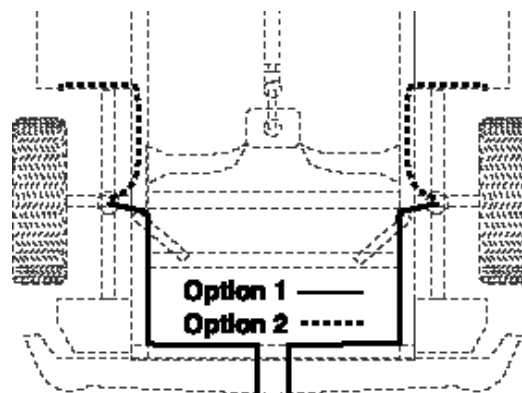

fig. 11
6. Route the air line along the frame to the air fitting on the air spring (Figure 11). Keep at least 6" of clearance between the air line and heat sources, such as the exhaust pipes, muffler, or catalytic converter. Avoid sharp bends and edges. Use the plastic tie straps (BB) to secure the air line to fixed, non-moving points along the chassis. Be sure that the tie straps are tight, but do not pinch the air line. Leave at least 2" of slack to allow for any movement that might pull on the air line.
7. On both sides, place the provided thermal sleeve (M) on the air line near the exhaust.